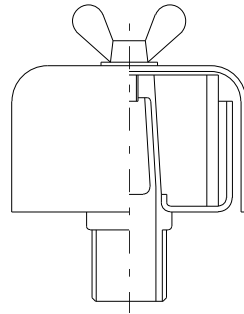

Figure 11 Air Breather
(4) Air breather (see Figure 11)